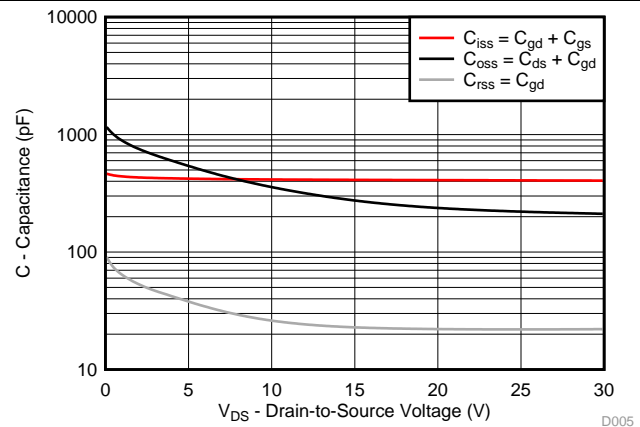

Figure 5. Capacitance
- Changed the Y axis scale for Figure 5. ..... 5